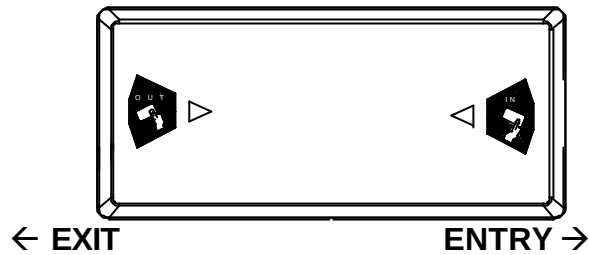

*Figure 11: Closing the terminal*
4. Fasten the cover with the two special screws (see Figure 11) located on the side of the terminal (use a TORX anti-tamper TX10 screwdriver).